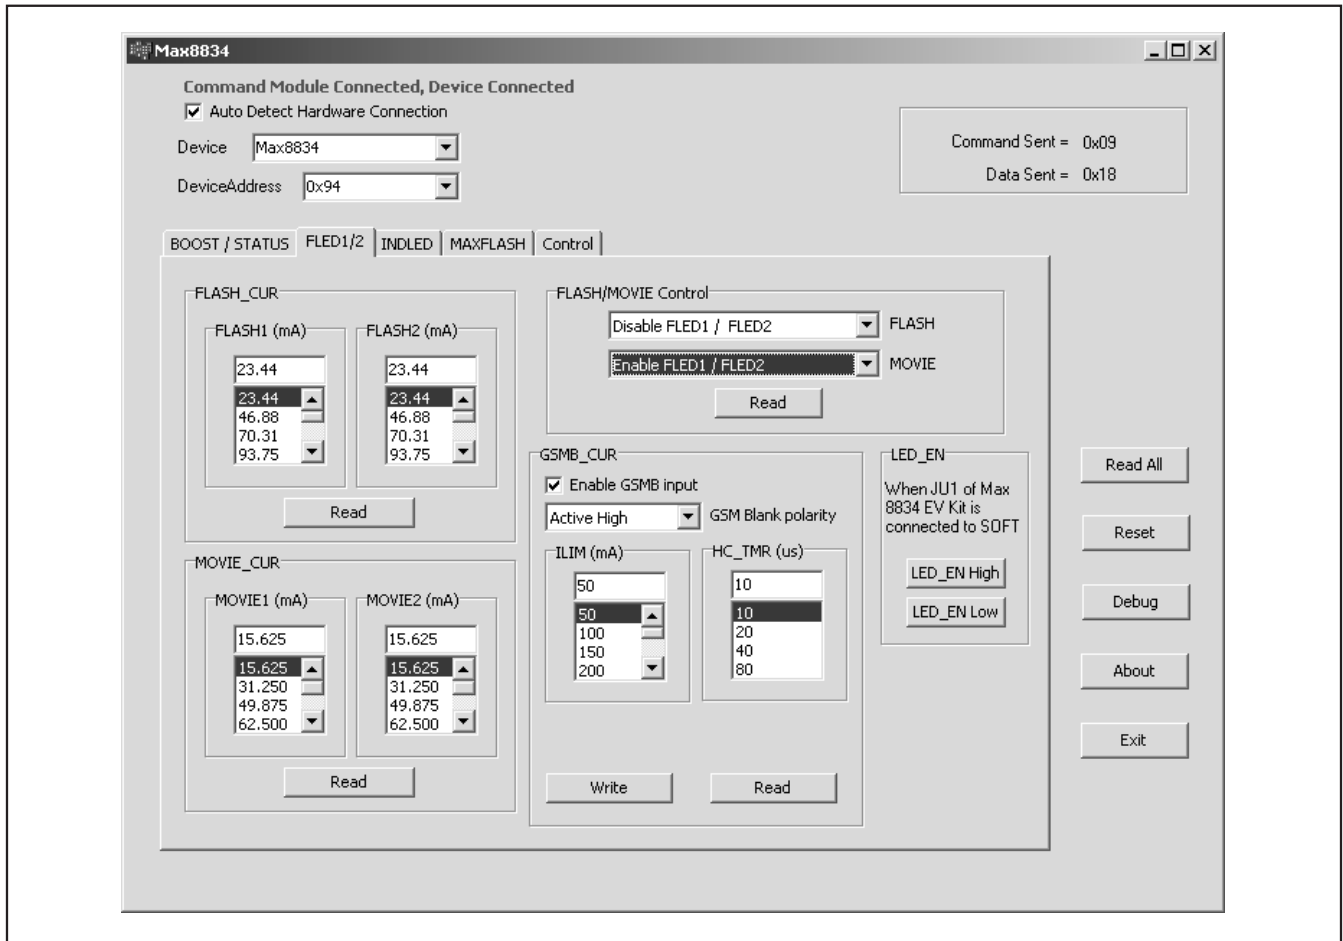

Figure 2. FLED1/2 Tab
- 13) Switch to the **FLED1/2** tab, as shown in Figure 2. Choose **Enable FLED1 / FLED2** from the **MOVIE** drop-down list in the **FLASH/MOVIE Control** group box.
The **FLED1/2** tab sheet provides the FLED1 and FLED2 configuration. The FLED1/FLED2 current is regulated to I²C-programmable levels for movie mode up to 125mA and flash mode up to 750mA. The flash or movie mode can be enabled through I²C or LED_EN. LED_EN can also be set to logic 0 or logic 1 through the software buttons (**LED_EN Low** or **LED_EN High**) in the **LED_EN** group box when the shunt is installed across jumper JU1 pins 1-2 on the EV kit. See Figure 2 for details.